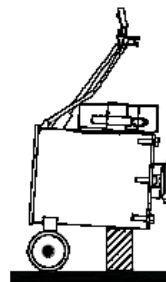

fig.3
- 5.10. When jack is not in use, tip it forward until it rests on the wheels and use extra support to hold the jack fig.3. This allows trapped water to drain from inside the cylinder.